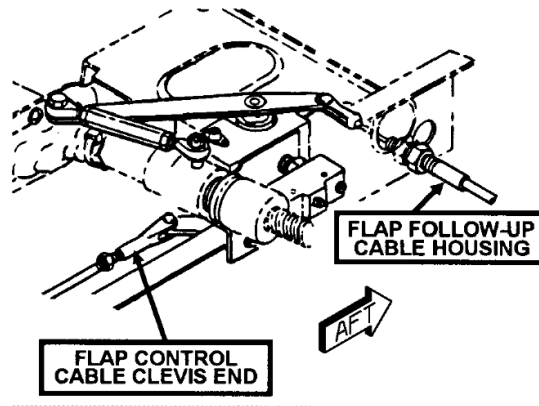

Figure 519
- (1) Move flap control arm to 10 degree detent and note position of pointer.
- (2) Move flap control arm to 20 degree detent and note position of pointer.
- (3) Adjust flap follow-up cable housing at the flap switch actuator support assembly (Refer to Figure 519) as required to position flap pointer as close as possible to 10 and 20 degree marks on the pedestal cover.
- (1) Move flap control arm to the UP position. The flap control arm must be contacting the UP stopbolt.
- (2) Place flap control lever (located at center pedestal) in the UP position.
- (3) Adjust the flap control cable clevis end (Refer to Figure 519) to obtain a slight spring-back of the flap control lever in the UP position with the cable reconnected to the flap control arm. If adjustment limits of the clevis end are reached, the flap control cable housing at the pedestal can also be adjusted.